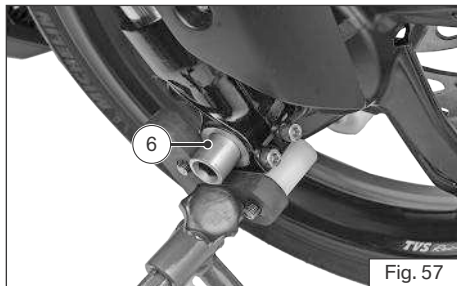

Fig. 57
- ♦ Support the front wheel and slowly pull out the quick-release axle (6) from the left side (ref. Fig. 57).